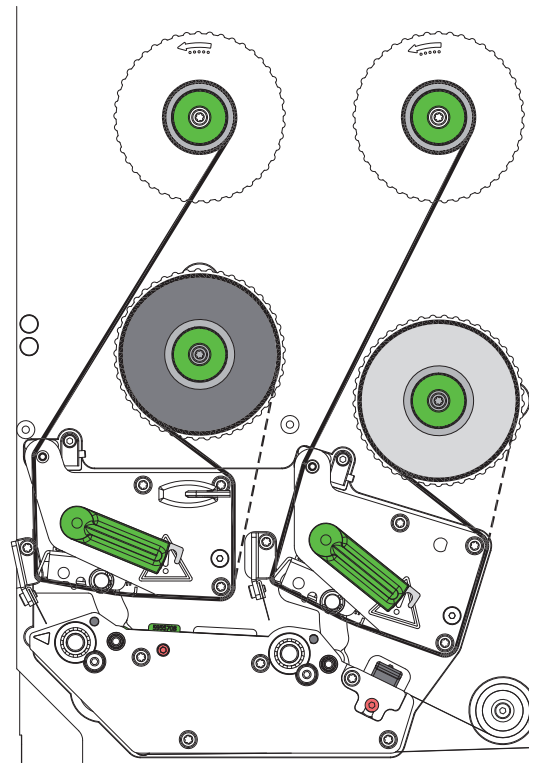

Figure 13 Transfer ribbon feed path
2. Turn lever (6) counterclockwise to open the printhead.
3. Slide transfer ribbon roll (3) onto the ribbon supply hub (4) until it stops and so that the color coating of the ribbon faces away from the printhead after loading.
4. Hold ribbon supply hub (4) firmly and turn knob (5) counterclockwise until the transfer ribbon roll is secured.
5. Slide suitable ribbon core (1) onto the transfer ribbon take-up hub (2) and secure it in the same way.
6. Guide transfer ribbon through the print unit as shown in the Figure 13. The broken line shows the path for ribbon with ink on the inside.
7. Secure starting end of transfer ribbon to the transfer ribbon core (1) with adhesive tape. Ensure counterclockwise rotation direction of the transfer ribbon take-up hub here.
8. Turn transfer ribbon take-up hub (2) counterclockwise to smooth out the feed path of the transfer ribbon.
9. Turn lever (6) clockwise to close the printhead.